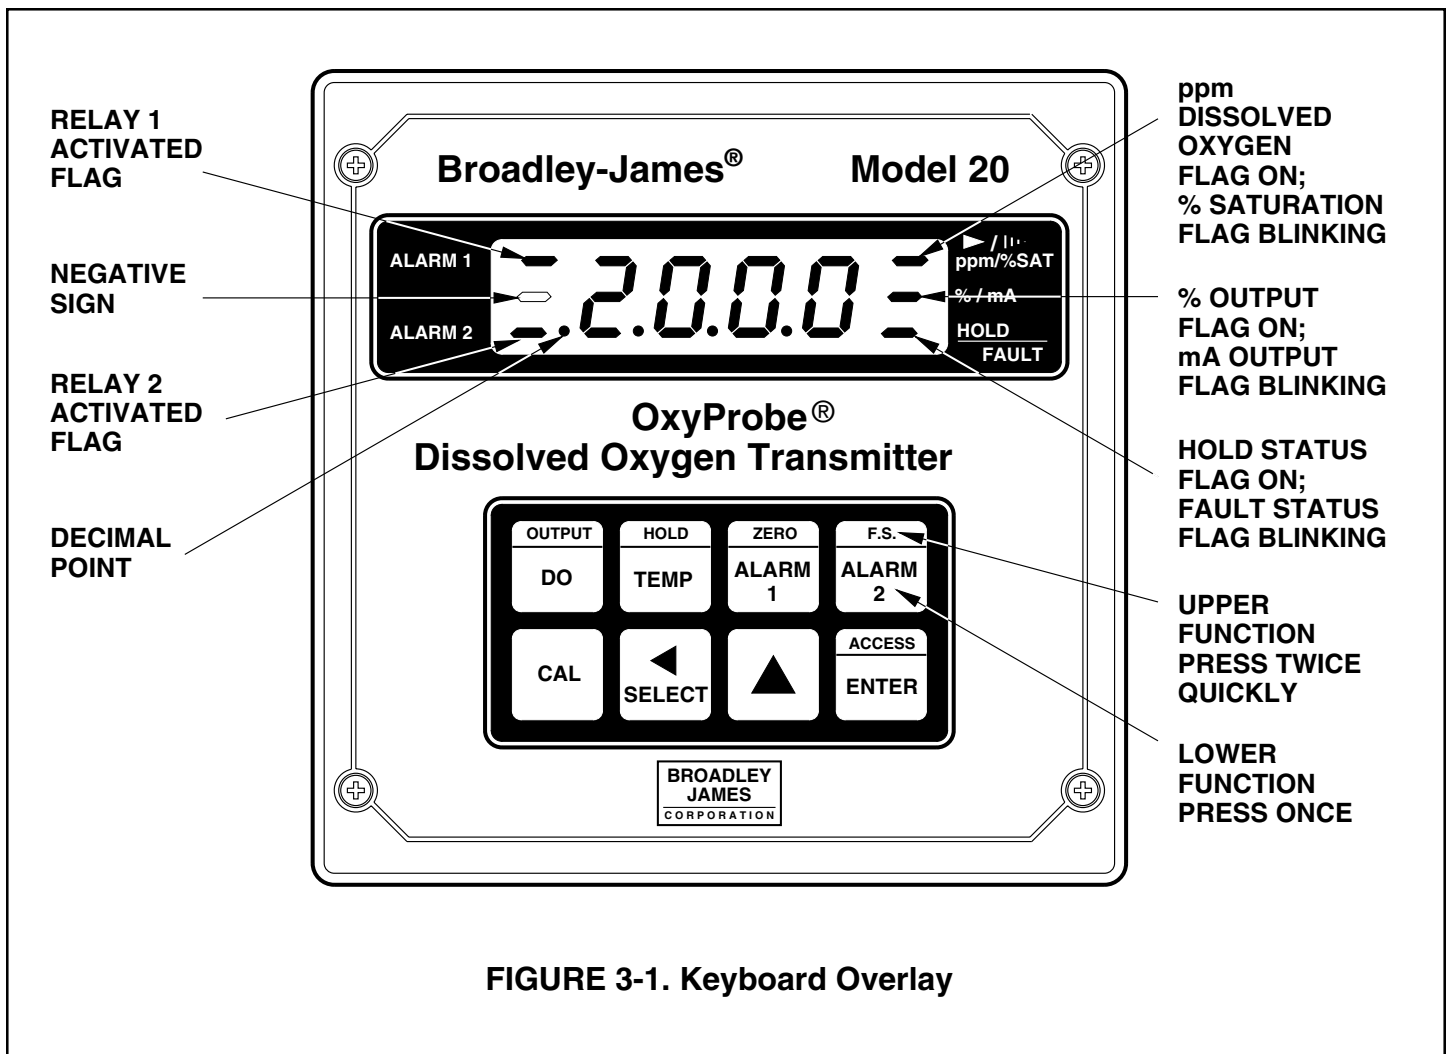

FIGURE 3-1. Keyboard Overlay
3.2 KEYBOARD ROUTINE. To familiarize yourself with the keyboard operation, practice on the following routines. Refer to Figure 3-1 and Table 3-1.